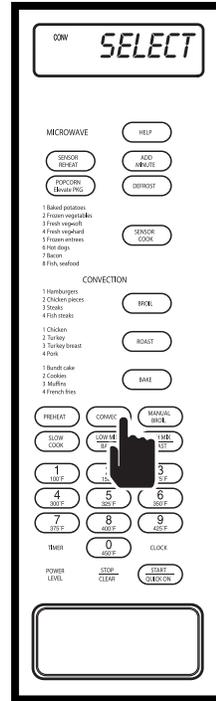

Figure 3-71.
1. Press CONVEC key. "SELECT - TEMP" will flash on display (See Figure 3-71).